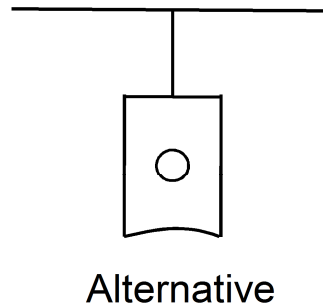

Fig 3b. Alternative Connection
2. If “V” connection is not possible, “T” connection is preferred as shown at Fig: 3b. With this connection method, the input lead length should be kept as short and thick as possible and the wires should be bundled together.